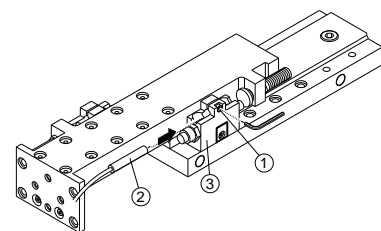

fig 4
Adjustment of limit switch (ES), fig 4
1. Loosen M3 clamping screw (1).
2. Slide limit switch (2) from rear into stop block guide (3) up as far as stop.
3. Retighten clamping screw (1).
4. Connect limit switch (2) to electricity supply.